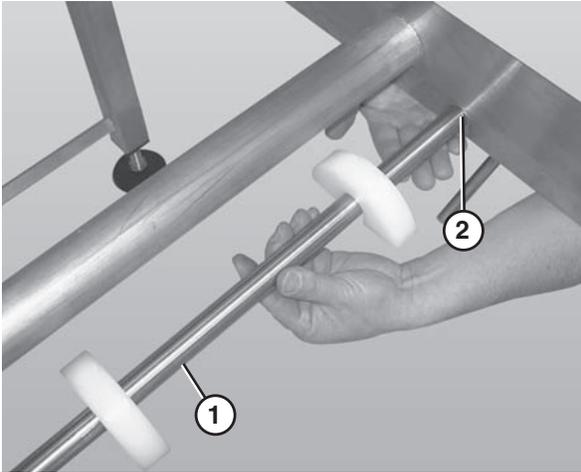

Figure 59
1. Remove the belt returns by pushing up on the return shaft (**Figure 59, item 1**) and sliding it through the large hole (**Figure 59, item 2**) in the frame.
2. Lower the opposite end of the return shaft (**Figure 59, item 1**) and slide it out of the frame.